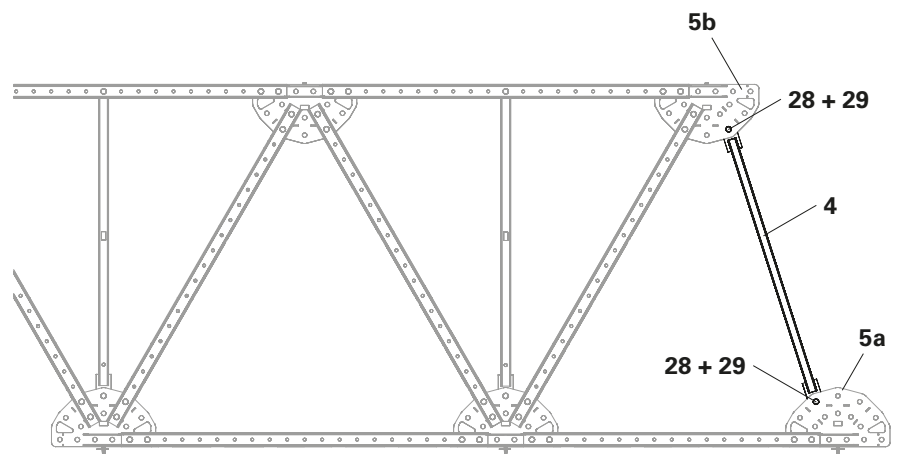

Fig. A4.23
2. Fix the Truss Diagonal 262 (**4**) to the Chord Nodes (**5a**) and (**5b**) using 1x fitting pin Ø 32 (**28**) respectively and secure with cotter pins 5/2 (**29**). (Fig. A4.23)